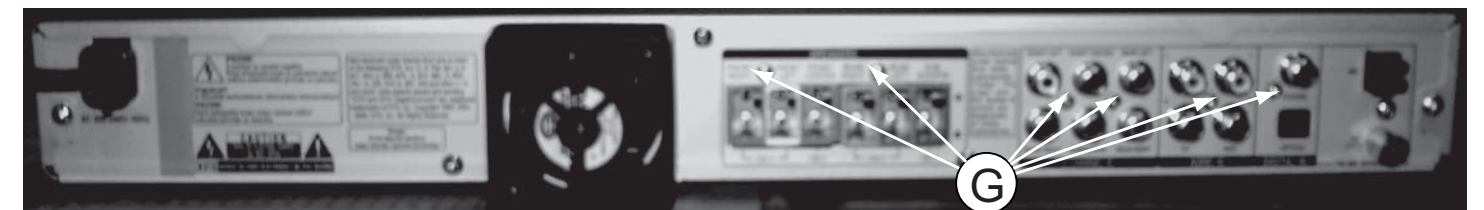

Figure 7
- 2) Loosen 5 screw "G" at the back panel as shown in figure 7.